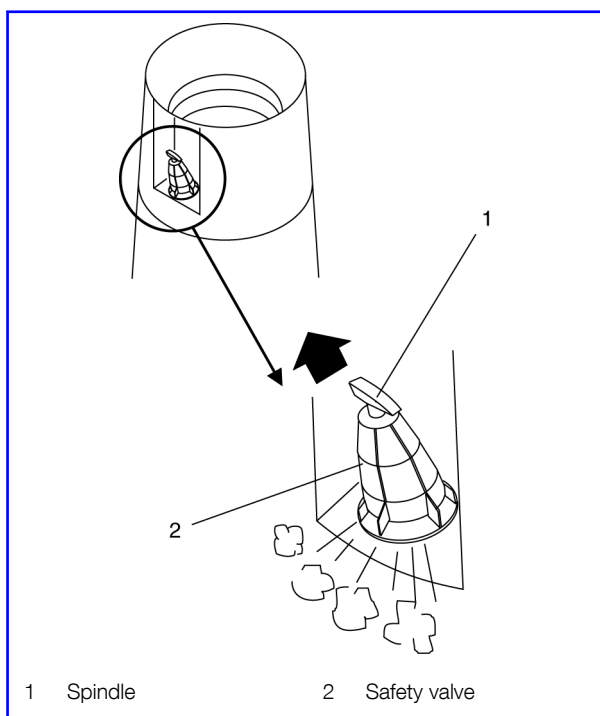

Figure 1: .
- 2) Discharge the excess pressure in the container by drawing out the spindle in the safety valve (see fig. 1) before loosening the top cover.